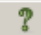

Figure 21.2 3D frame dialog box
- ⇒ In the **Create plane fragments and grids** dialog box (see Fig.21.2), specify the following data: